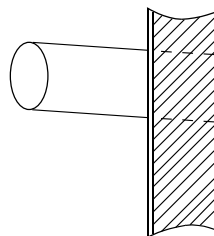

Fig 1
1. Drill a hole in the wall and insert the connecting pipe and wire through a PVC wall-through tube purchased locally. The wall hole shall be with a outward down slope of at least 1/100. (See Figure 1)
- An additional transitive air duct is necessary for the circular air duct to connect to the air supply inlet. It should be also connected to its respective air diffuser separately. See Fig.1. Adjust the wind speed of each air diffuser outlet to keep in line on the whole, so as to meet a demand of the air conditioner in the room.